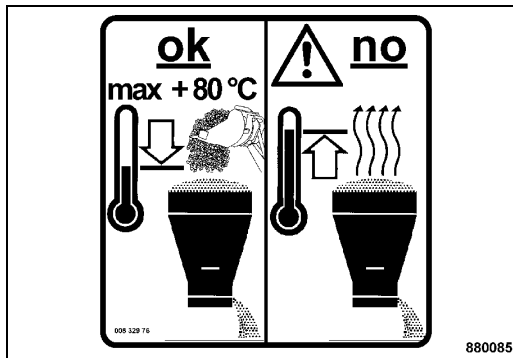

Fig. 95
- Fill the chippings container with no more than 200 litres of chippings (Fig. 95) (specific weight of chippings 1.5 t/m³).